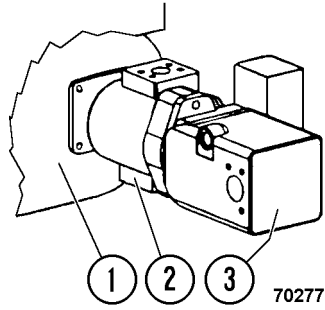

Figure 1. Hydraulic Pump Mounting
The steering and brake supply pump (3, Figure 1) on the 530M is mounted in tandem with the transmission oil pump (2) and is driven through an internally splined coupling (VK1257). This coupling engages the ends of the two pumps main shafts. Several failures of the coupling (VK1257) have occurred causing loss of steering and brake supply pressure. Additionally, when the coupling fails, the steering system may experience a backward flow of oil through the system that can cause damage to the high pressure steering filter (AK3572) and contaminate the tank and other parts of the hydraulic system.